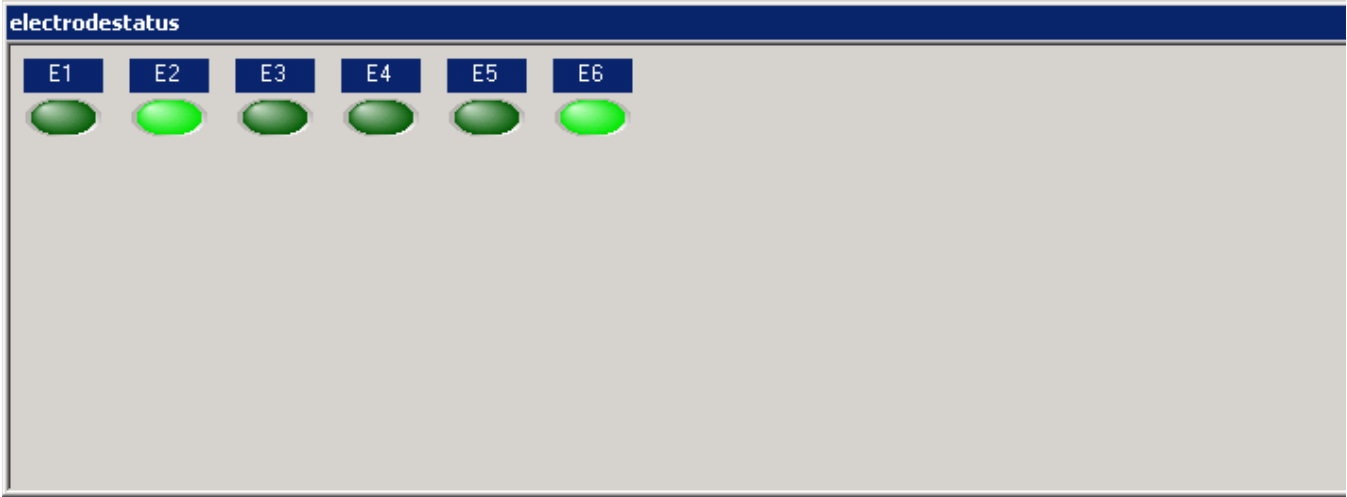

Figure 5-17. EGT Electrode Status
- **Show Electrode Status** — When you click the show Electrode Status button, EGT will launch a window showing the status of each electrode. The Electrode Status window includes one LED for each electrode present in the system. The LED will turn on when the corresponding electrode is detected as Touched. Figure 5-17 shows the Electrode Status Window.